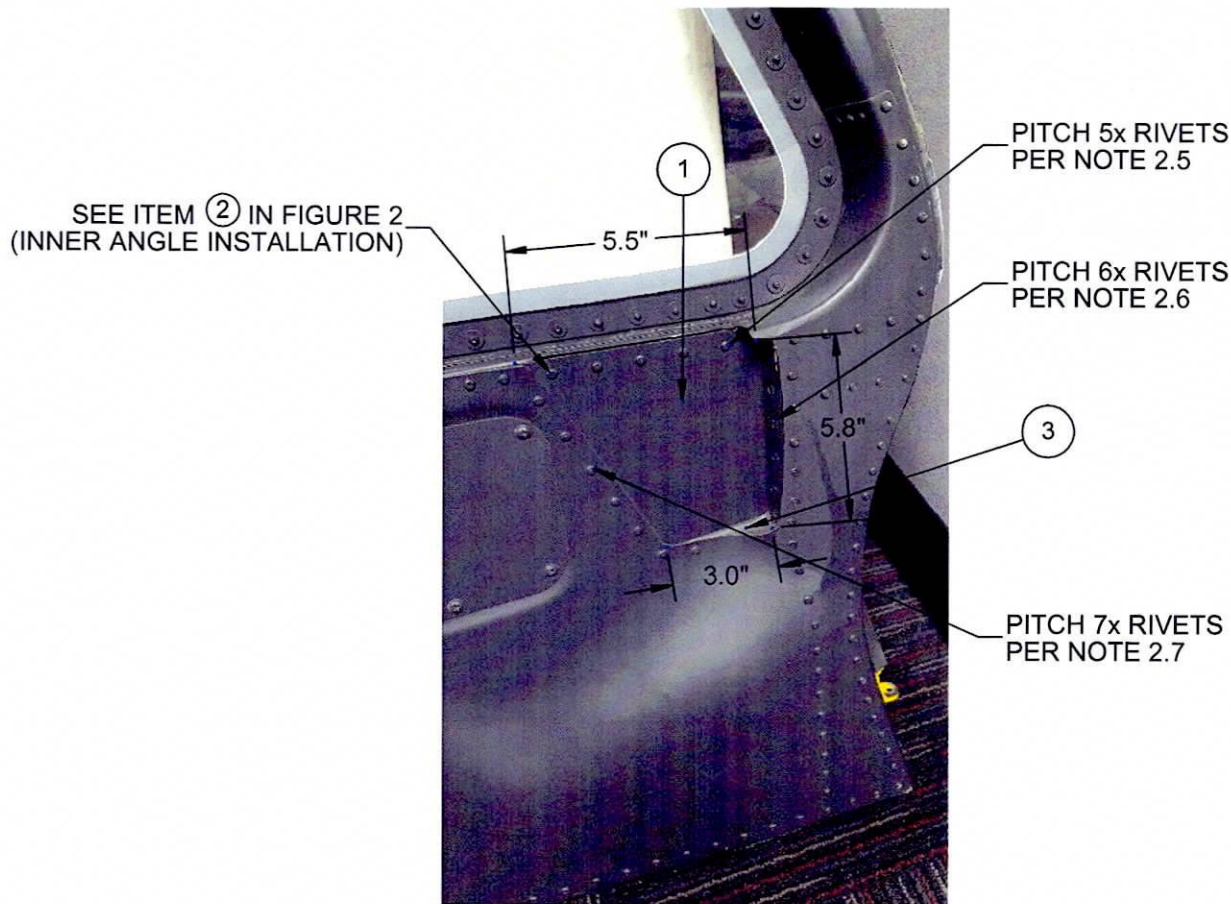

FIGURE 1 - Door Modification for Co-Pilot Collective Head Installation
With reference to Figures 1 and 2, modify the OEM LH crew door as follows:
- 2.1 Trim inner door skin from the forward rib to the dimensions shown in Figure 1. Take care not to damage rib.
- 2.3 Fabricate inner angle (2) from 0.040" thick 2024-T3 aluminum per QQ-A-250/5 or 0.040" thick 2024-T3 aluminum extruded angle per QQ-A-200/3 to attach the cover (1) to top frame as shown in Figures 1 and 2.
- 2.5 Pitch 5x ϕ 0.129" (#30 drill) rivet holes as required, approximately 1.0" -1.1" pitch, from cover (1) to the inner angle (2) as shown in Figures 1 and 2.
- 2.6 Pitch 6x ϕ 0.129" (#30 drill) rivet holes as required, approximately 1.0"-1.1" pitch, from the inner door skin into the cover (1) as shown in Figure 1.
- 2.7 Pitch 7x ϕ 0.129" (#30 drill) rivet holes as required, approximately 1.0"-1.1" pitch, from the inner door skin into the cover (1) as shown in Figure 1.